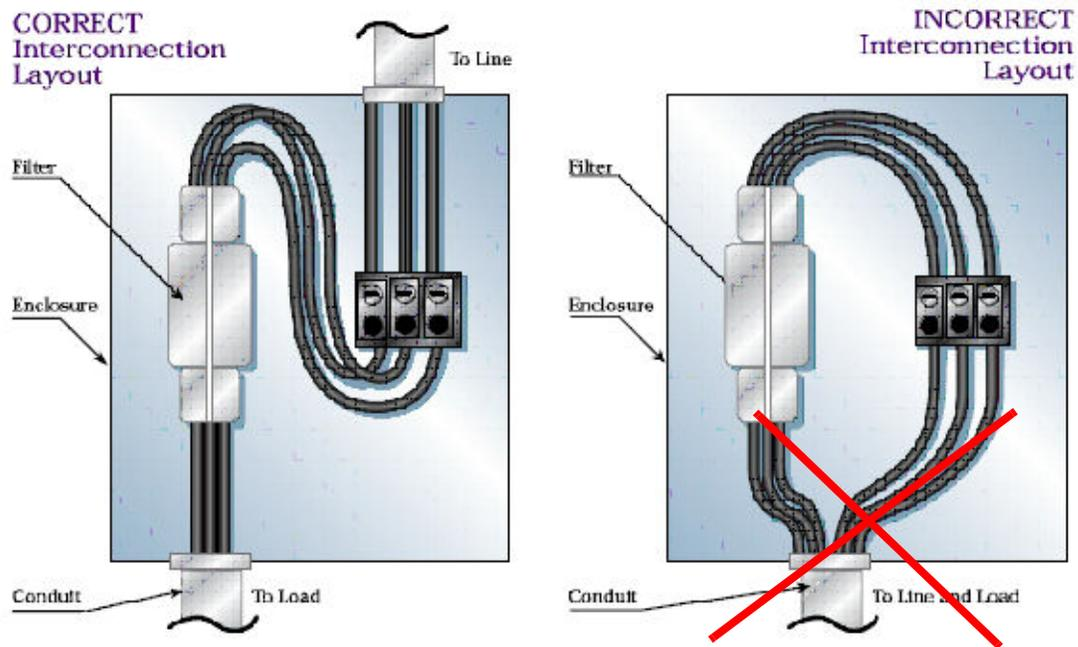

Figure 66 Interconnection Layout
2. Attach the AC line wires to the line reactor terminals as shown in Figure 66.
Input and output filter leads should be separated by a maximum practical distance within the enclosure and should be routed separately in interconnecting conduits when used (see Figure 66).